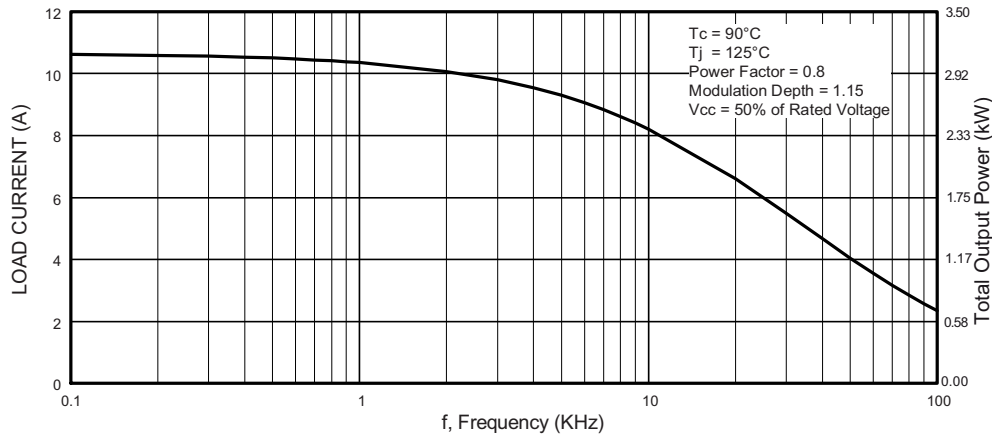

Fig. 1 - Typical Load Current vs. Frequency
Modulation depth (see fig. 1)	115 %
- Short circuit rated ultrafast: optimized for high speed (see fig. 1 for current vs. frequency curve), and short circuit rated to 10 μs at 125 $^\circ\text{C}$, $V_{GE} = 15\text{ V}$